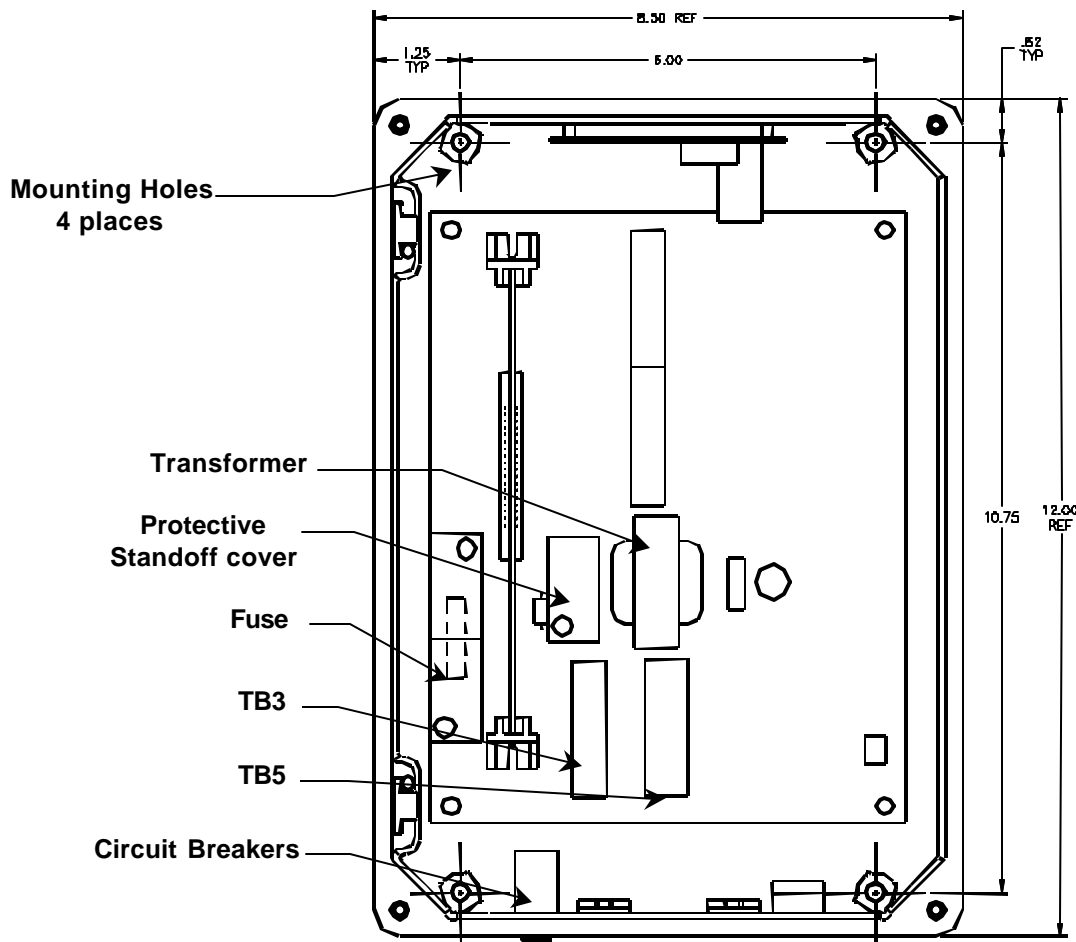

Figure 2: Mounting Dimensions
| FIGURE 2: MOUNTING DIMENSIONS | 3 |
1. Choose a suitable location for mounting the electronics control unit. See Figure 2 for mounting dimensions. NOTE: All dimensions are given in inches.